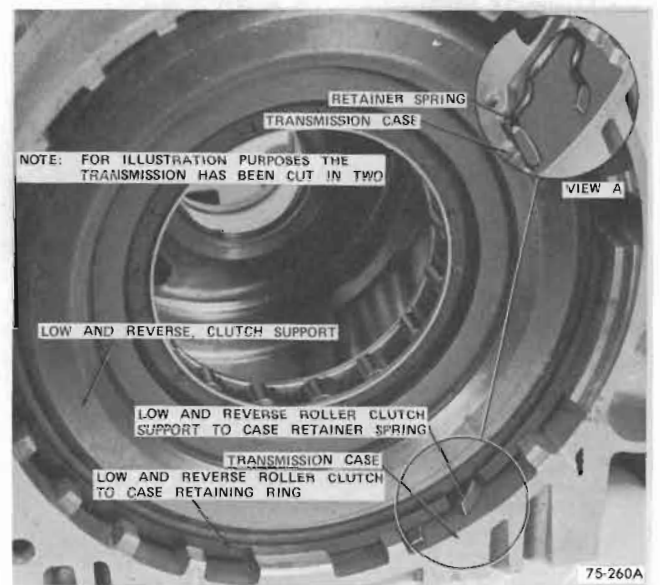

Figure 75-107
3. Remove low and reverse clutch support retainer spring. See Figure 75-107.